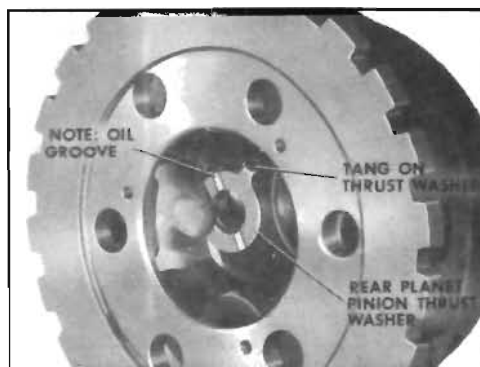

Figure 5-260
2. Install the long planet pinion gears first. Install the rear planet pinion thrust washer. Oil groove must be toward pinion gear. See Figure 5-260.